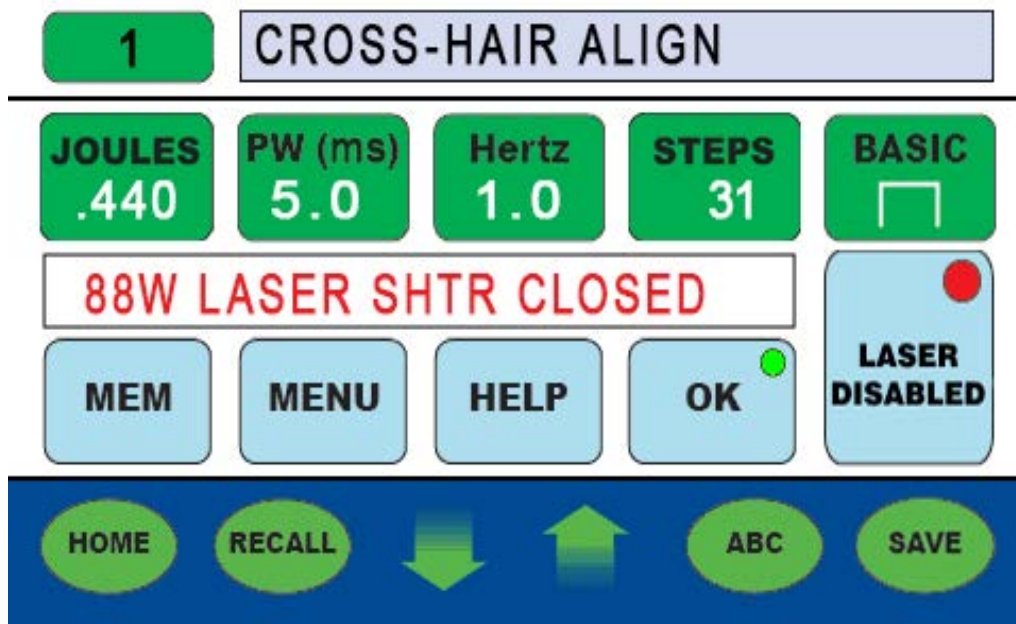

Figure 66
1. Press the **menu button** on the main screen (**Figure 66 on page 119**); scroll to **“User Password: Locked”** (the default password for this device is: **438**).